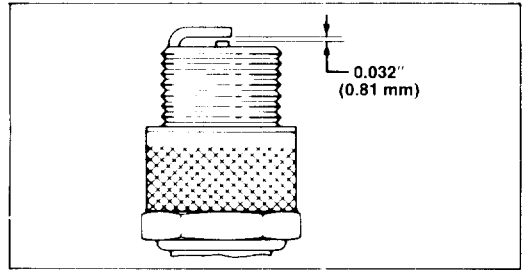

Figure 11
3. Set air gap at 0.032" (0.81 mm) (Fig. 11). Install correctly gapped spark plug and gasket seal. Tighten plug firmly to 10 ft-lb (13.6 N·m).